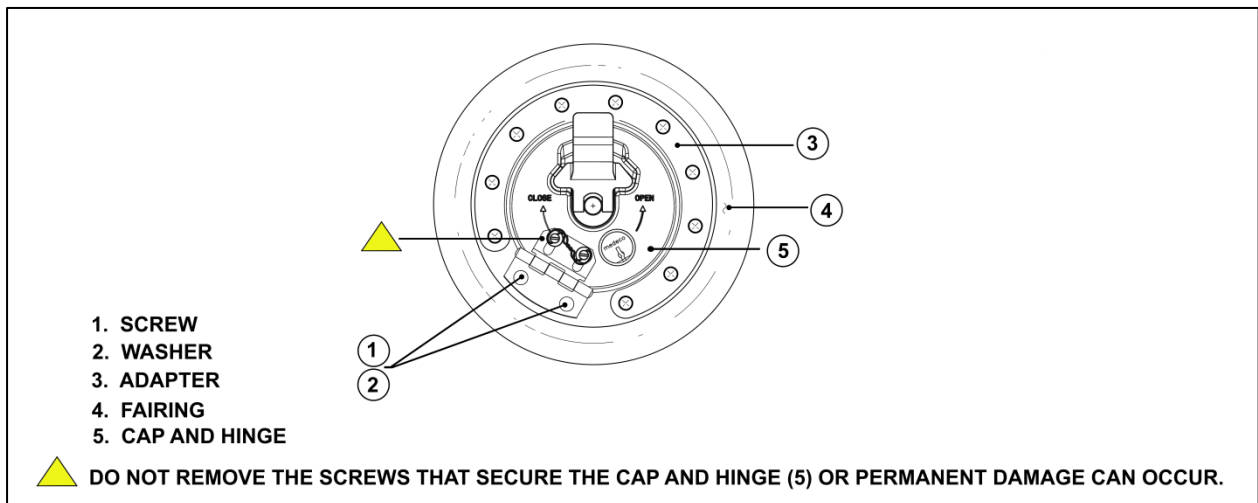

Figure 2. Fuel Cap Attachment Hardware
3. Visually inspect the attaching hardware for security and condition. Verify screws attaching Fuel Cap to adapter (see Figure 2) are properly sealed.
2. Using a plastic scraper, remove the Sealant from the 2 Screws (MS27039-4-15) securing the Fuel Cap Assembly to the adapter (Figure 2).
3. Attach the Fuel Cap Assembly to the adapter using retained 2 Screws (MS27039-4-15) and Washers (NAS1149D0416J). Torque Screws 50 – 70 in-lbs. and overcoat with Sealant (AMS-S-8802). Refer to Figure 2.
3. Visually inspect the attaching hardware for security and condition. Verify Screws (MS27039-4-15) attaching Fuel Cap to adapter are properly sealed. Refer to Figure 2. _____